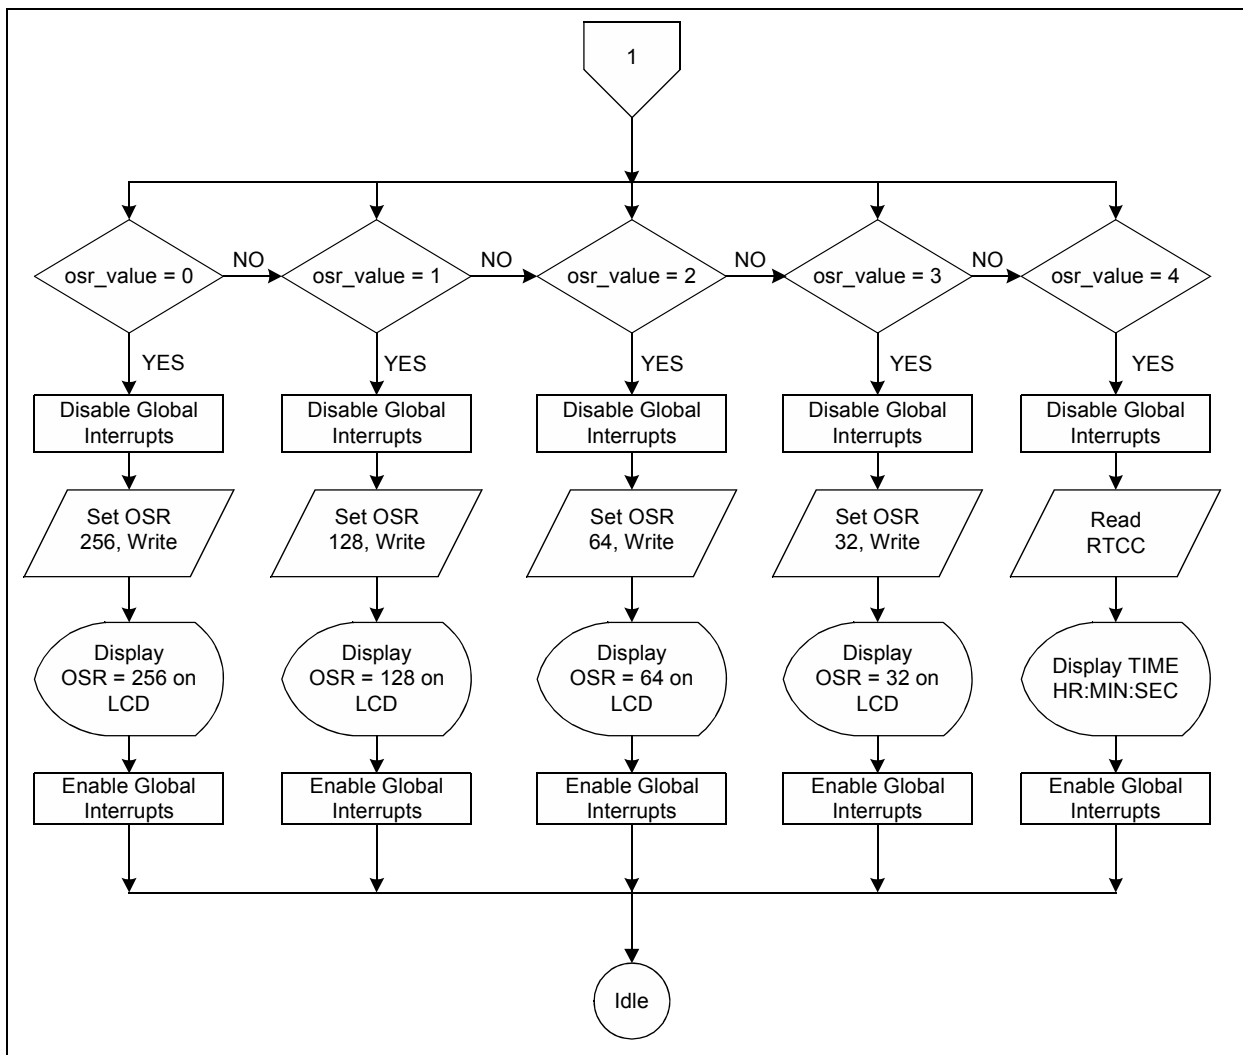

FIGURE 4-2: Key Press Routine to Configure OSR and Display Time.
- Touch Key press routines (see Figure 4-2)
- Time display routines (see Figure 4-2)
- OSR switching routines (see Figure 4-2)